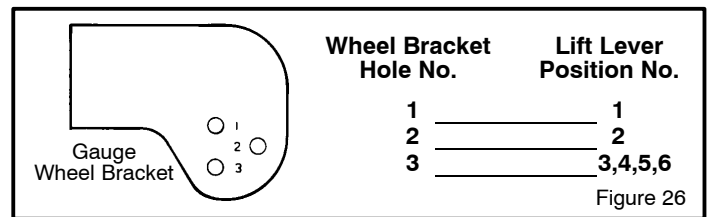

Figure 26
3. Look at each **gauge wheel bracket**. There are 3 holes in each bracket and a number next to each hole. The number for the height of cut position on the **lift lever** indicates the correct hole to use on each **gauge wheel bracket** (Figure 26).
4. Assemble the axle bolts to the **gauge wheel brackets** using the correct hole in the bracket as indicated (Figure 26).
**NOTE:** If the height of cut position is changed by the lift lever, you must move the gauge wheels to the correct hole (Figure 26) to keep a level height of cut.